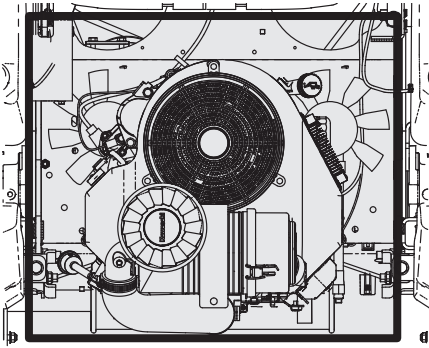

Fig. 28
- Clean around the exhaust manifold, fuses, all wiring and harnesses, muffler pipe, muffler shield, engine intake screens and cooling fins, etc (Fig. 28).